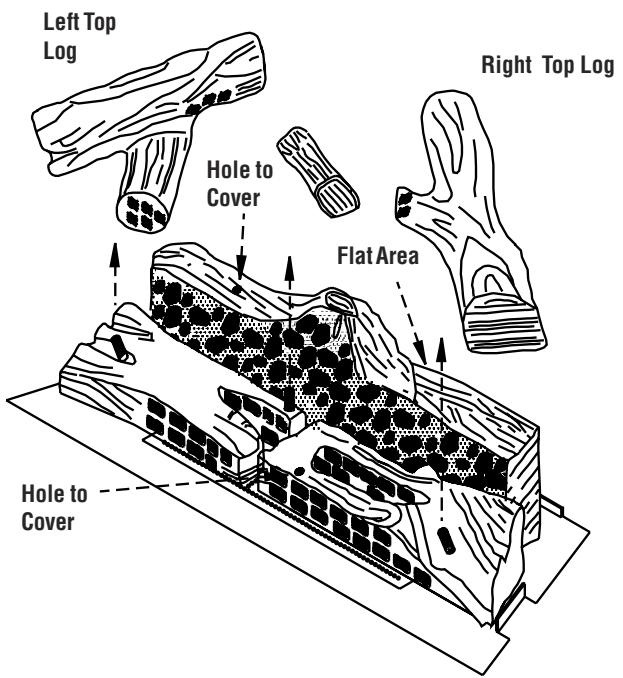

Figure 12
6) The small straight top twig (3021) should be turned so the black flat end is turned to the rear. Slide the holes in the bottom of this twig over the right peg on the left front log and the hole on the right front log. See **Figure 12**.
7) The left top log (3019) should be positioned as shown in **Figure 12**. Slide the holes in the bottom of this log over the hole in the left end of the rear log and the peg in the left end of the left front log. The right top log (3020) should be positioned as shown in **Figure 12**. Slide the holes in the bottom of this log over the peg in the right end of the right front log and rest it on the flat spot on the rear log.